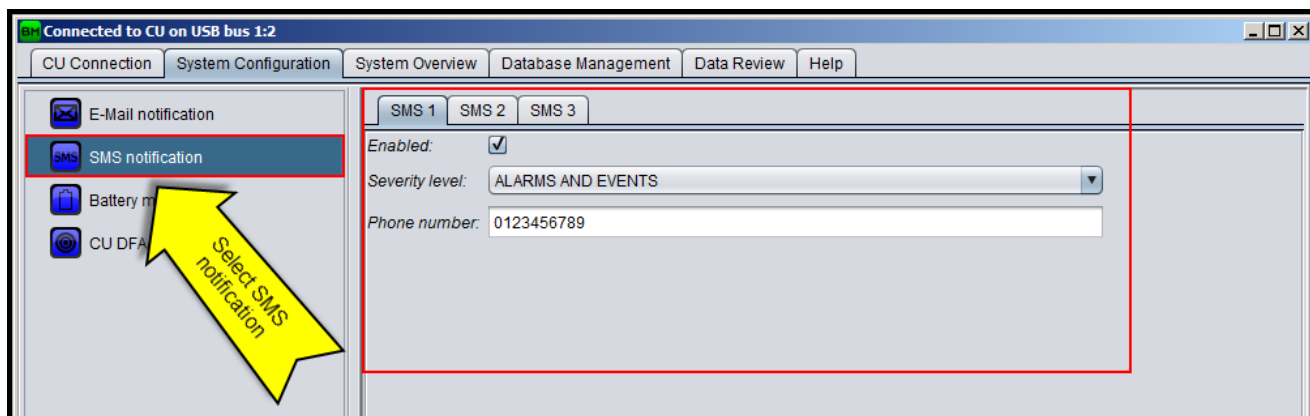

Figure 30: SMS notification configuration
8. Select SMS notification as shown on Figure 30.